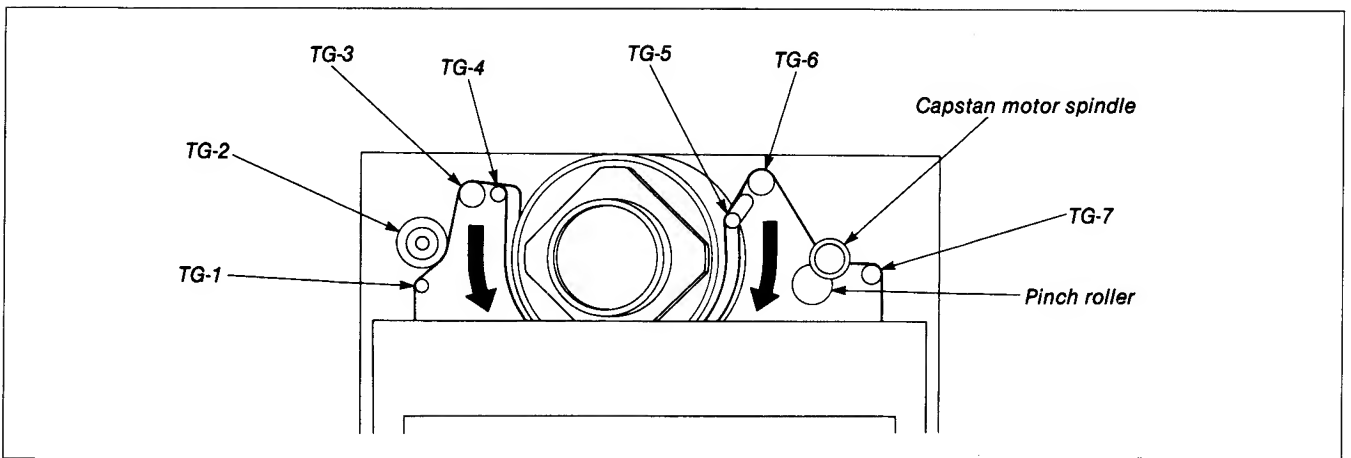
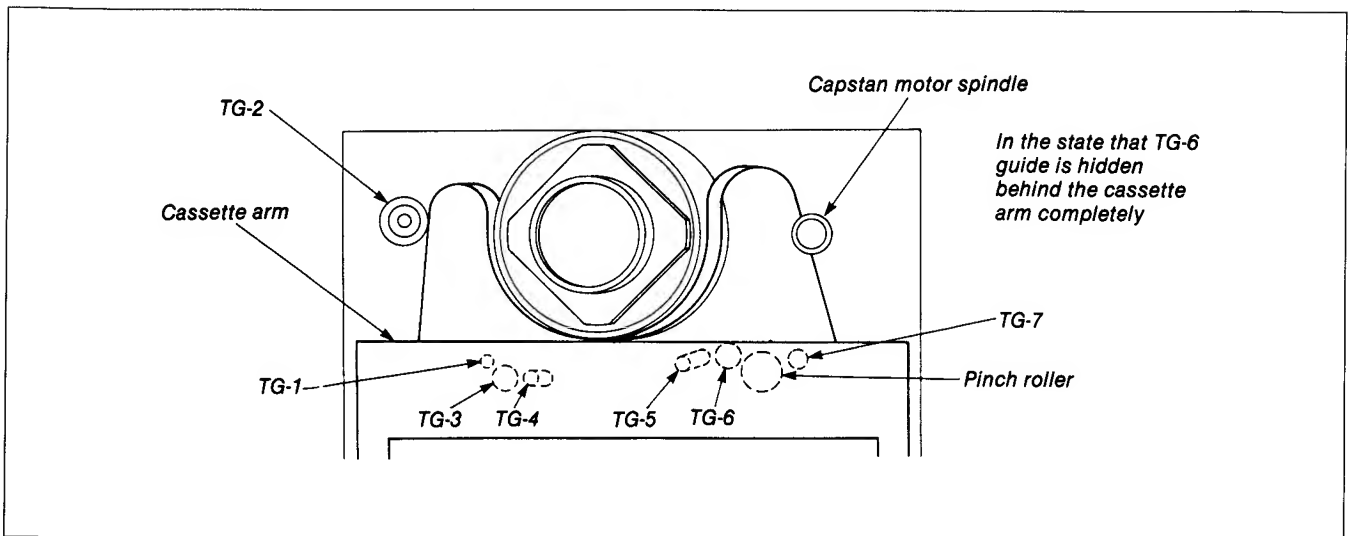

Fig. 8-4.
Fig. 8-5.
- 3) Set up GUIDE LOAD mode, and move each tape guide from the position shown in Fig. 8-4 to the position shown in Fig. 8-5.
Though in GUIDE LOAD mode, cannot wind up tape when each guide is not positioned as shown in Fig. 8-5, close to the cassette.